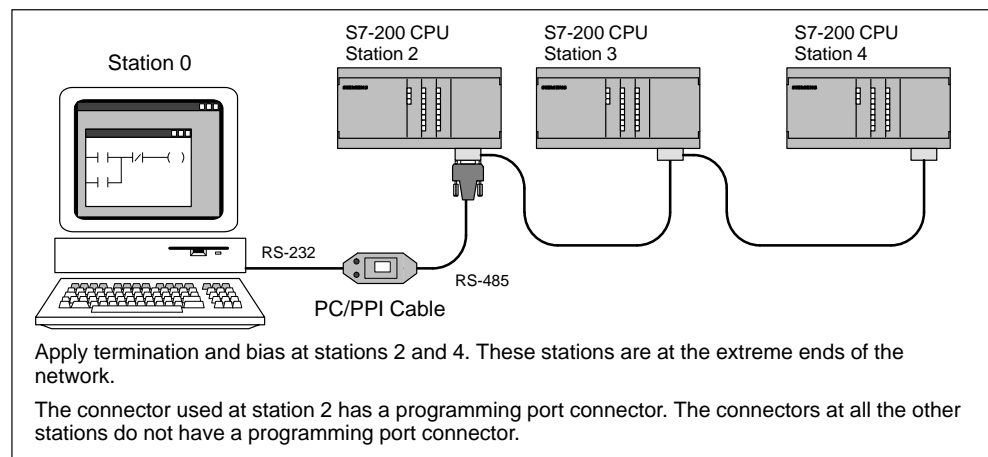

Figure 9-6 Using a PC/PPI Cable for Communicating with One CPU at a Time on a Network
STEP 7-Micro/WIN can use the PC/PPI cable to communicate with one or more S7-200 CPUs. See Figure 9-6. When using STEP 7-Micro/WIN, be sure that the baud rate selection on the PC/PPI cable is set to the correct baud rate for your network. STEP 7-Micro/WIN supports only 9600 baud and 19,200 baud.